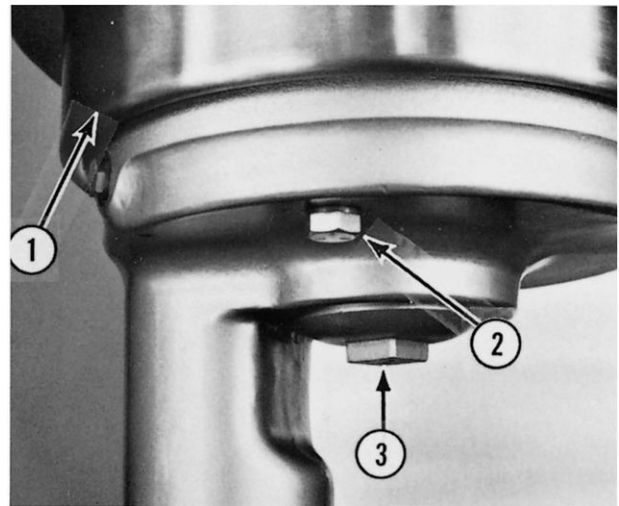

Fig. 10-2
B. Remove the drip cup (1, Fig. 10-2).
C. Drain the oil from the planetary. Remove the drain plug (2, Fig. 10-2).
H. Remove the seal cap (3, Fig. 10-2).